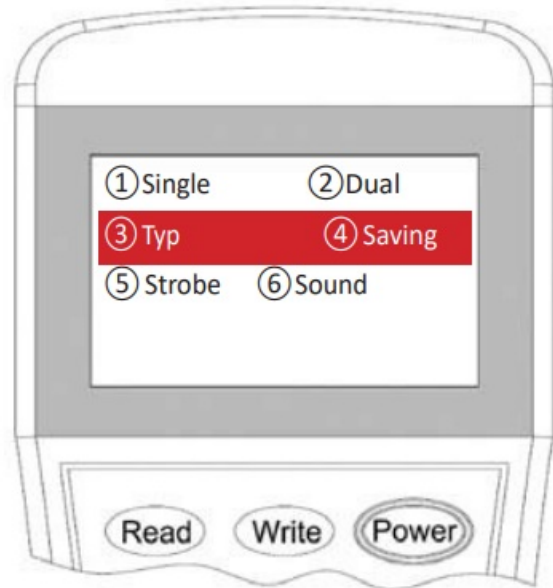

Figure 11
3. Input the “3” for Typical mode or “4” for Saving mode then press “Write” to change the setting into the desire mode (Figure 11).